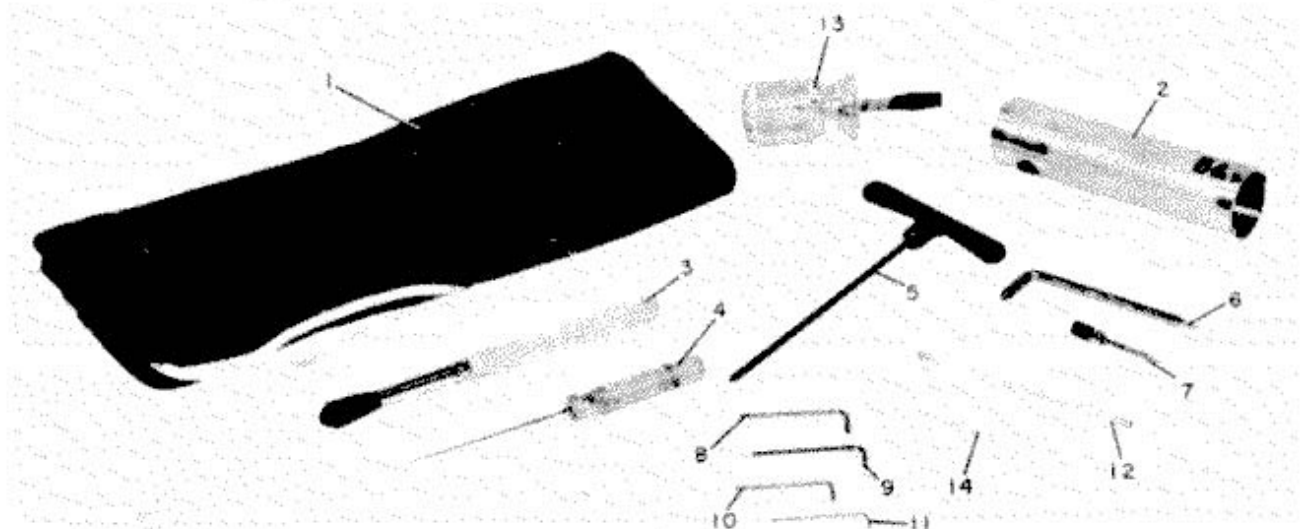

Figure 1-13. Tool Kit
(12) TOOL KIT. - Refer to figure 1-13. The tool kit contains the special tools supplied for adjustment and maintenance of Radio Receiver- RT-695/PRC-41. Refer to table 1-5.